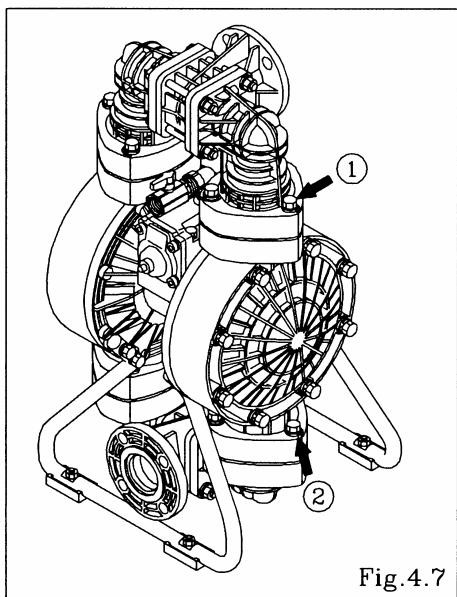

Fig.4.7
See [9. Exploded View] on after p. 13. (Fig. 4.7, 4.8 and 4.9 show the NDP-50 BP□.)
- Remove the 6 (8 on the NDP-80) retainer bolts 1 from the out manifold, and remove the protector and out manifold. [Fig.4.7]
- Remove the 6 (8 on the NDP-80) retainer bolts 2 from the in manifold, and remove the protector and in manifold. [Fig.4.7]